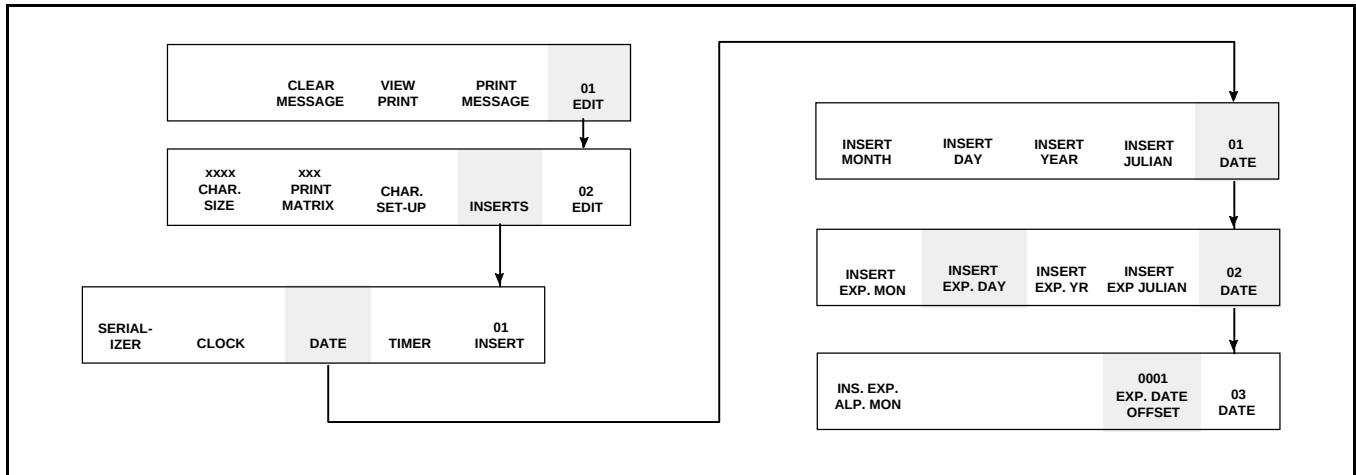

Figure 6-31. Accessing Frame <02 DATE>
4. Press **F5** to go to Frame <03 DATE>. (Refer to Figure 6-31).